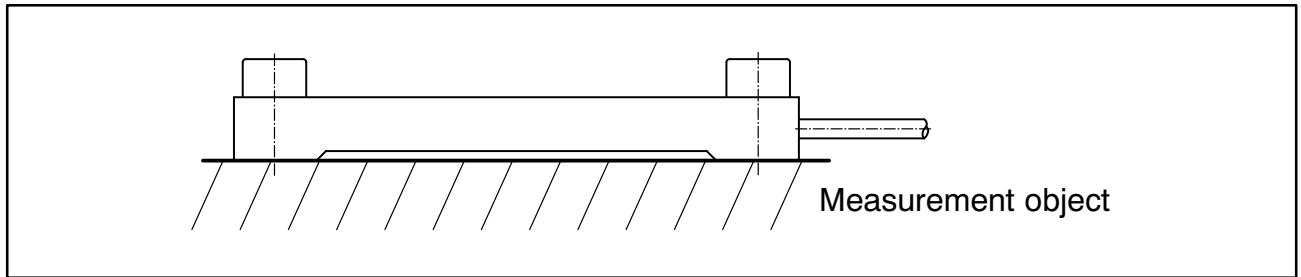

Fig. 5.1: Strain transducer installation
- The strain transducer must not rest in the central, offset area (see Fig. 5.1) and must be mounted without distortion.
- Mount the strain transducer as shown in Fig. 5.1.